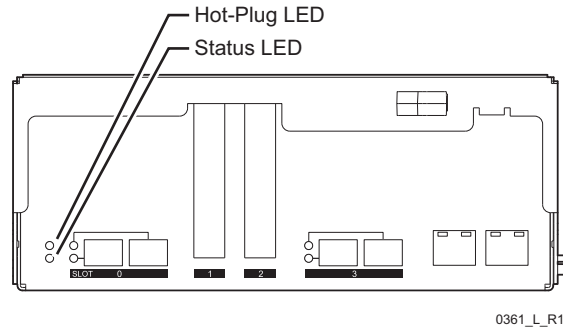

Figure 16-1. Controller Node LED Status
- 10 At the rear of the server, verify that the node status LED is flashing green and that the node hotplug LED is solid amber indicating that the node has been halted as shown in Figure 16-1.